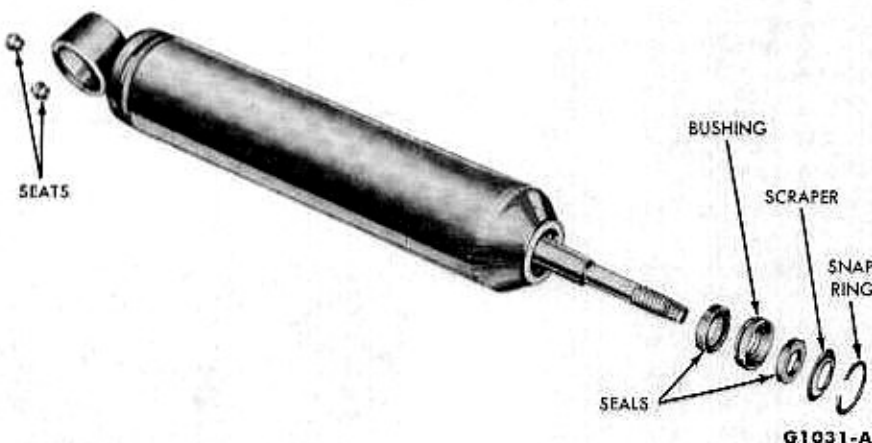
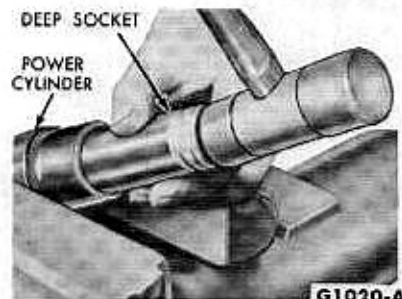

FIG. 19—Power Cylinder
FIG. 20—Power Cylinder Seal Installation
3. Lubricate the new inner seal with Ford Automatic Transmission Fluid B8A-19582-A and place the seal, bushing, outer seal, and scraper on the piston rod. **The parts must be installed in proper order and relative position (Fig. 19).** Push the rod in all the way, and install the parts in the cylinder with a deep socket slightly smaller than the cylinder opening (Fig. 20).